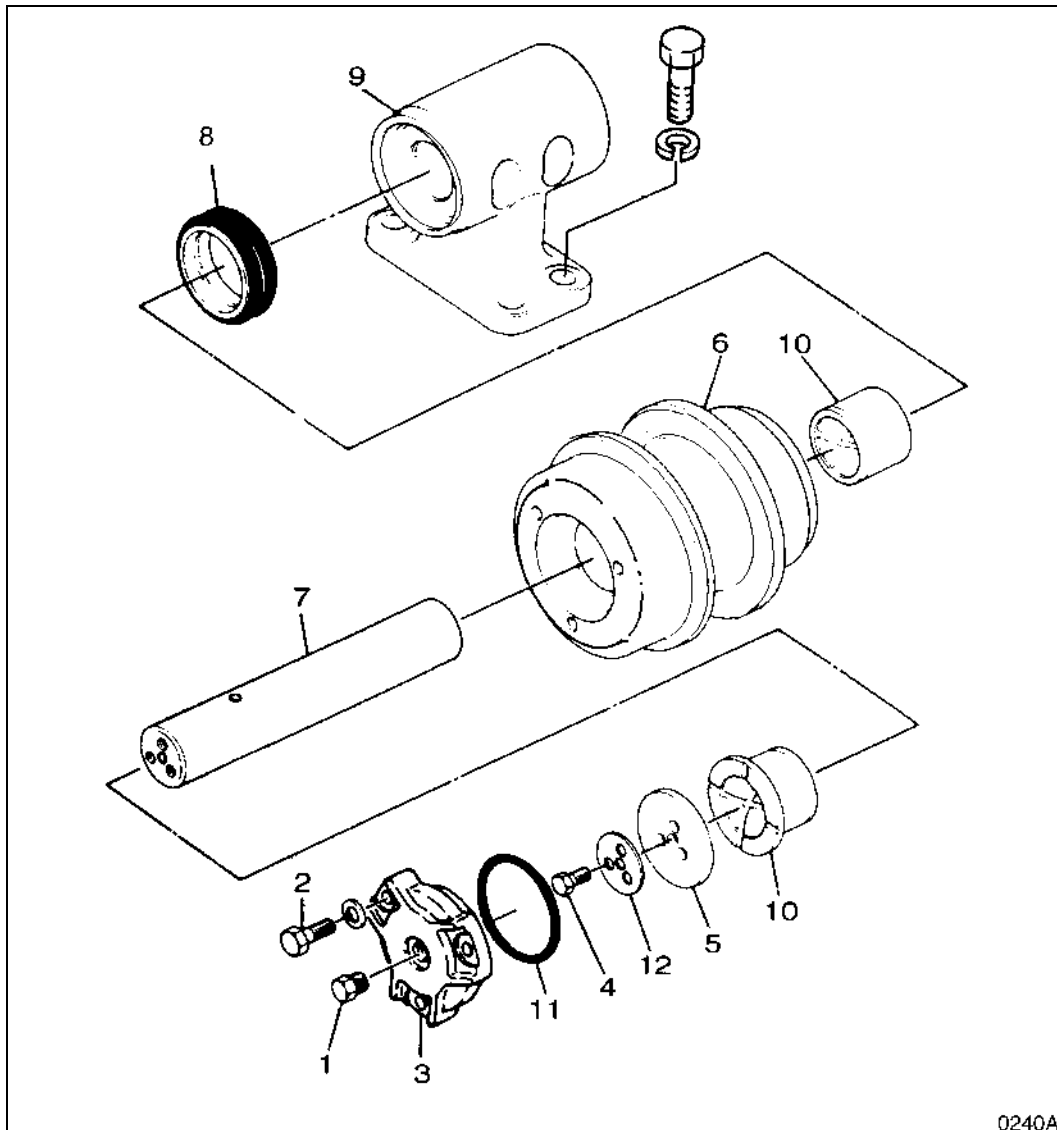
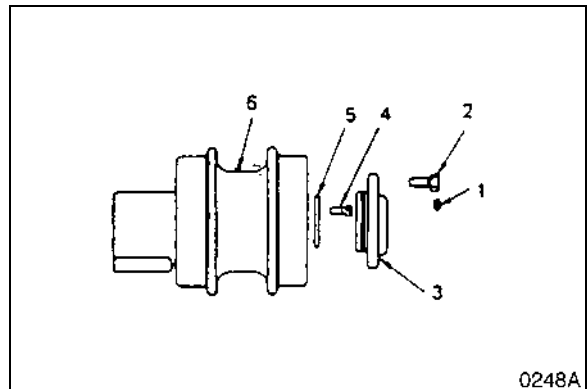

Figure 39
Figure 48
3. Install the axle, washer (5, Figure 48) and bolt (4).
4. Attach group seal (8, Figure 39) to the roller (6, Figure 48) and cover (3).
5. Insert the O-ring (11, Figure 48) to the cover. Attach cover (3) and bolt (2) to the roller.